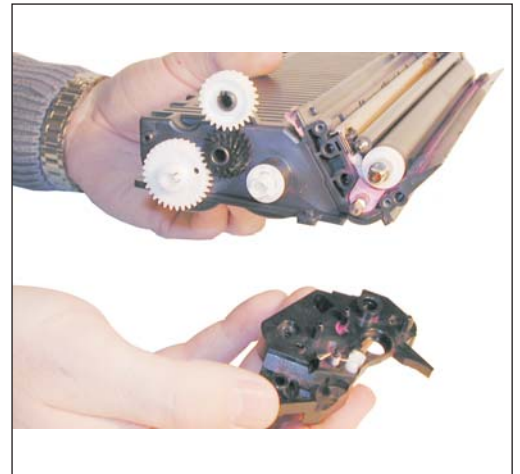

Figure 60
34) Remove the inner gear plate. See Figure 60